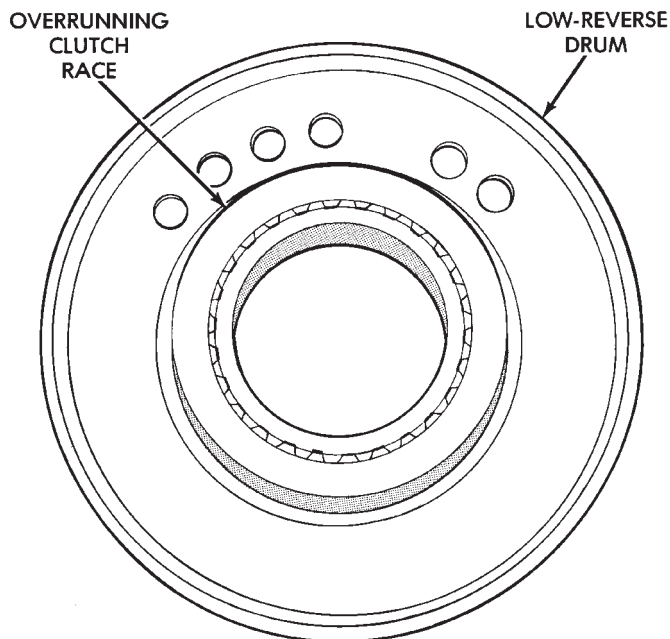

Fig. 31 Overrunning Clutch Race Position—46RH
(32) Note that overrunning clutch race will remain on splines of low-reverse drum after removal (Fig. 31). **The race is a permanent press fit on the hub splines. Do not attempt to remove the race.**